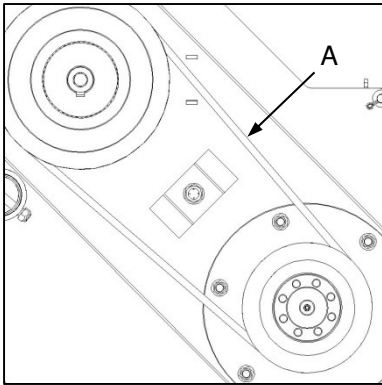

Fig. 10
- ⊖ Drive belt tension should be checked at the mid-point between pulley centres (Fig. 10-A). A deflection of  $\pm 20$  mm should be evident when single finger pressure is applied to a single belt.
- ⊖ Dryfbandspanning moet halfpad tussen die katrolasentrums gekontroleer word (Fig. 10-A). Speling van  $\pm 20$  mm behoort met eenvinger-druk op 'n enkele band sigbaar te wees.